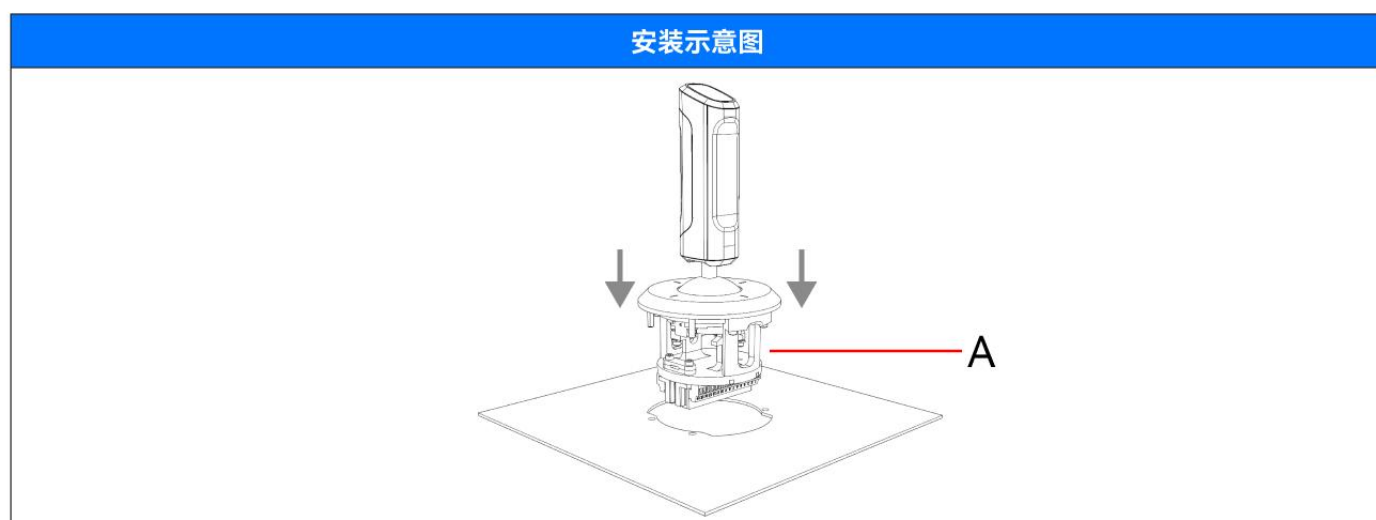

Figure3.2
2. As shown in Figure 3.2, install the handle body on the A installation surface.